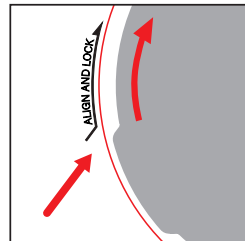

Figure 3
6. Once both burrs are cleaned, return the grind collar to the grinder base. Align the protruding part at the bottom of the collar with the indicated position on the machine (figure 3), and turn clockwise to lock.